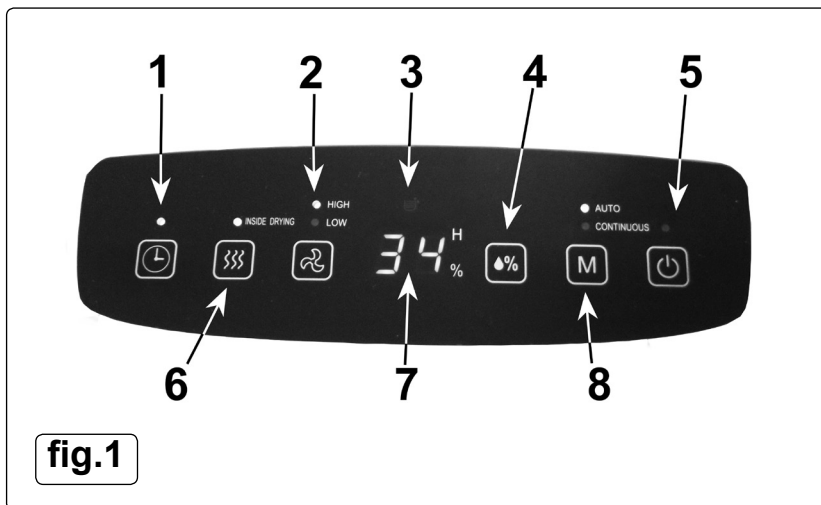

fig.1
4.1.3.2. Timed delay operation: Press Timer control (fig.1). Press Time control again (fig.1.1) to select between 1 and 24 hours in 1 hour increments. Select Mode (fig.1.8) and Fan speed (fig.1.2). Select Humidity level (fig.1.4). After set time the unit will switch on.